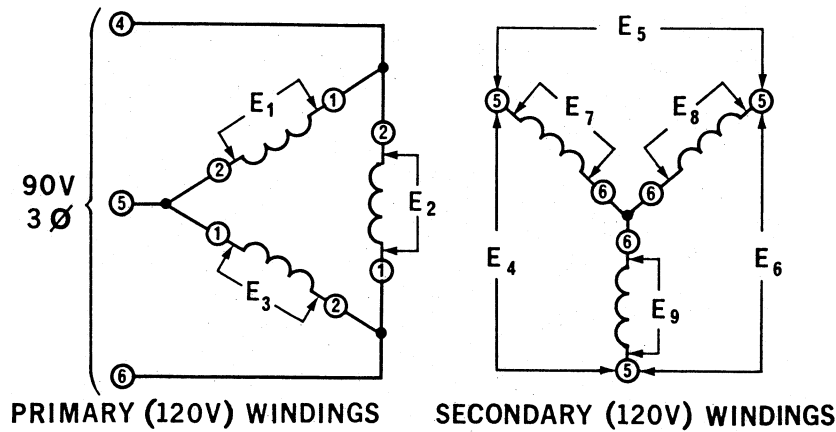

Figure 48-6.
2. a. The circuit shown in Figure 48-6 has three transformers connected in a _____ configuration.